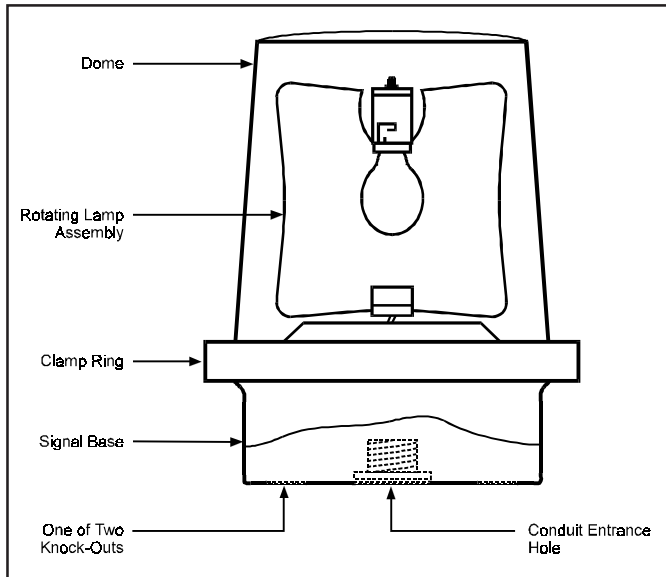

Figure 1. Catalog Series 53 Rotating Light
1. See Figure 1. Remove the screw in the clamp ring, remove the ring and lift off the dome.
- a. Remove the two knock-outs for the mounting screws from the bottom of the base. See Figure 1 for the location of knock-outs.